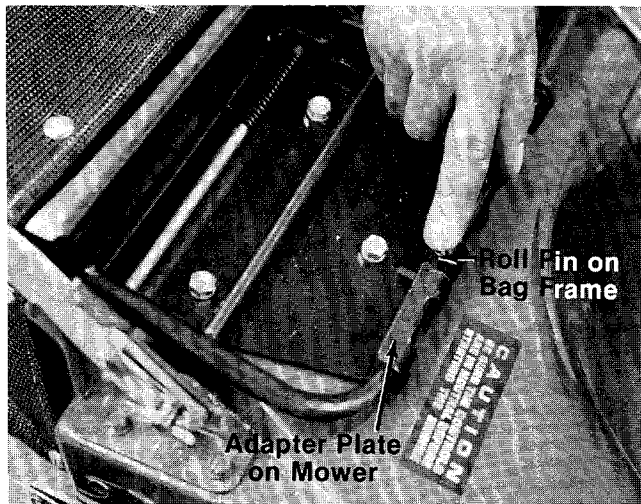

FIGURE 11.
- Tilt bag slightly forward and slide roll pin on bag frame into slot on mower. See figure 11. Push down on bag to position on mower.